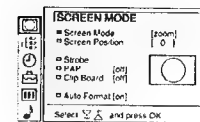

Fig. 36
- 2 Select the symbol **Ⓜ** for »Screen Mode« with **Δ** or **∇** and press **OK**. The **SCREEN MODE** menu appears (See Fig. 36).